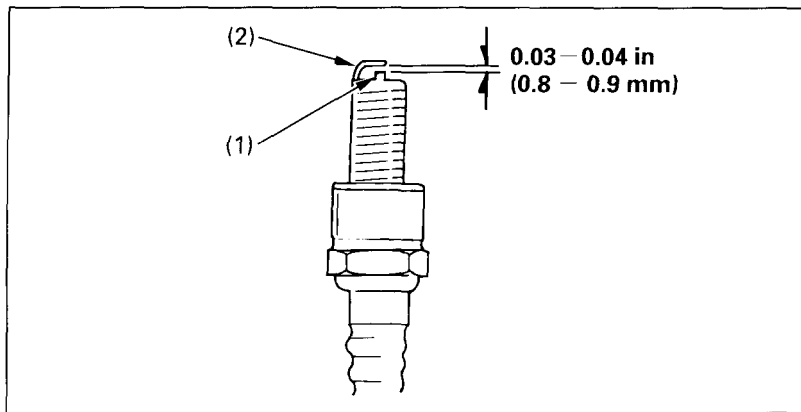

Fig. 4-16 (1) Center electrode
4. Visually inspect the spark plug electrodes for wear. The center electrode (Fig. 4-16) should have a flat tip and sharp edges, and the side electrode (2) should not be eroded. If the electrodes and insulator tip appear unusually fouled or burned, we suggest that you contact your authorized Honda dealer.